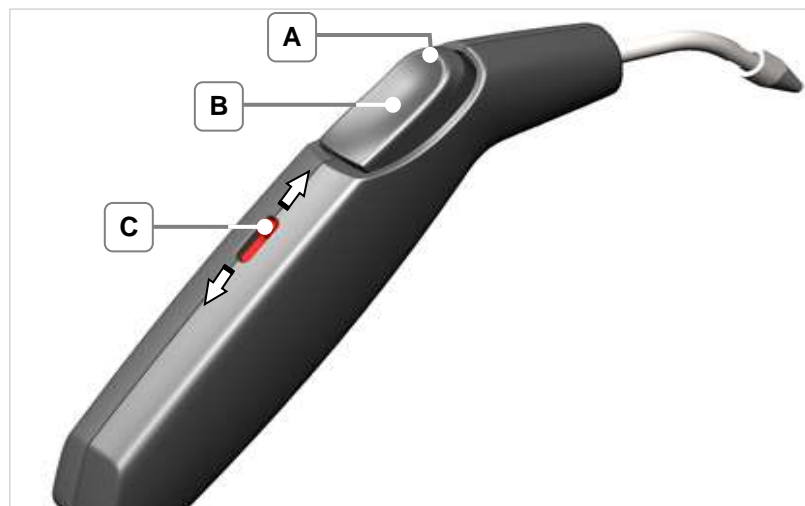

Fig. 6.1. Hand piece description
2. Unlock the locking lever (*Fig. 6.1.C*) in the direction of the steam hose.
5. Lock the locking lever (*Fig. 6.1.C*) in the direction of the steam nozzle.